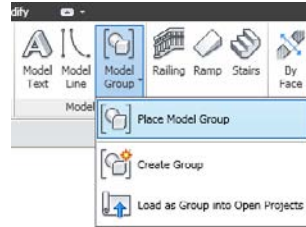

Figure 8.7
- On the Home tab's Model panel, click the Model Group drop-down. Choose from Place Model Group, Create Group, and Load As Group Into Open Projects (see Figure 8.7).